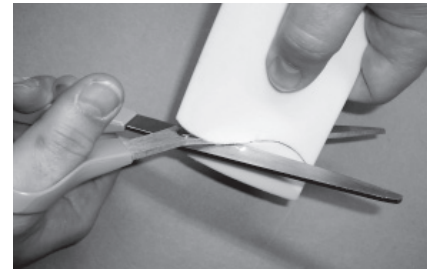

Fig. 3
5. Using good quality scissors, cut out the 'S' shaped splice outline on the band. See Fig. 3.
7. Use the scissors and cut out the 'S' splice outline on the band. See Fig. 3. The two ends should now fit together.